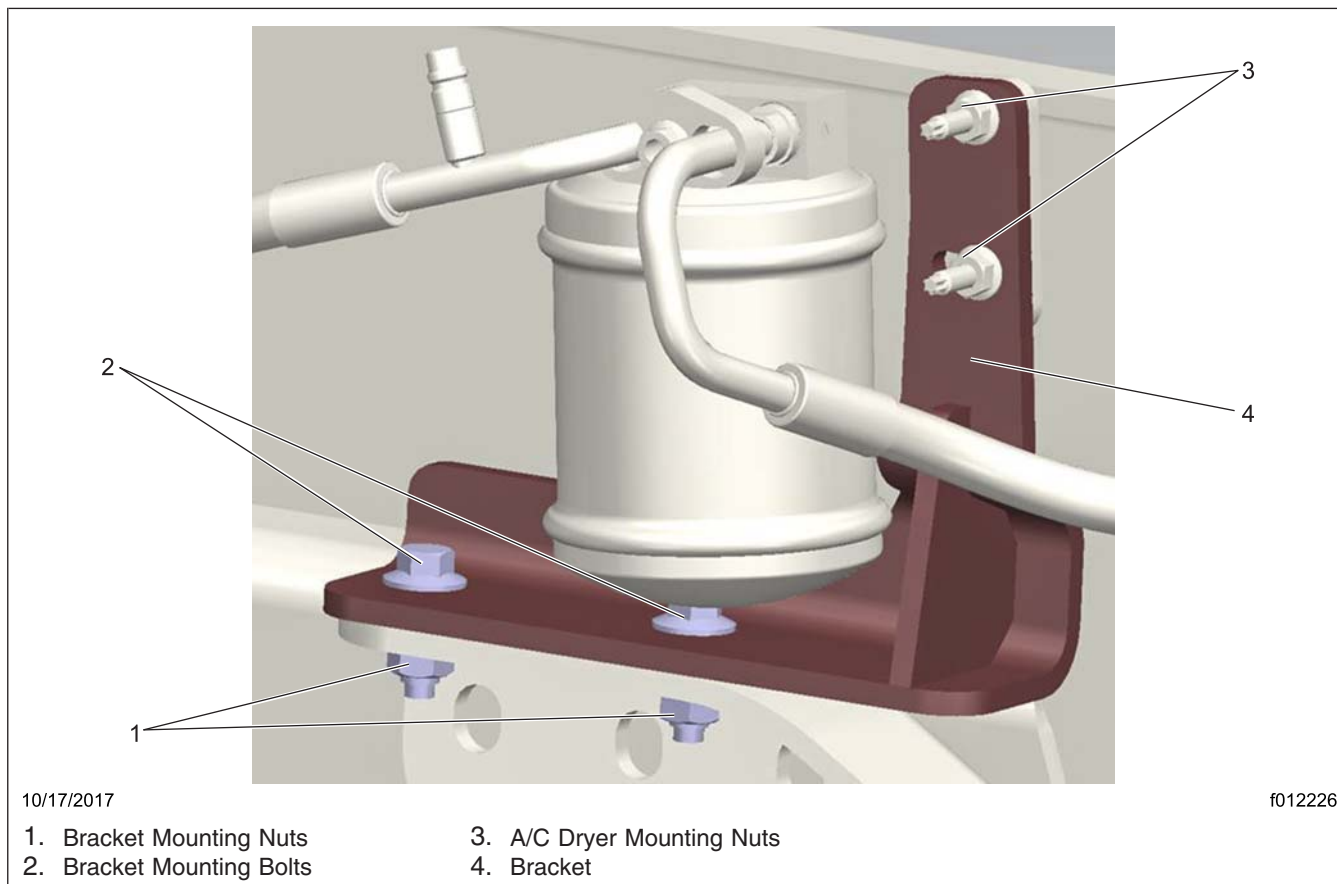

Fig. 6, New A/C Dryer Mounting
3. Place the A/C dryer mounting studs through the new A/C dryer bracket while aligning the new A/C dryer bracket to the frame. See **Fig. 6**.